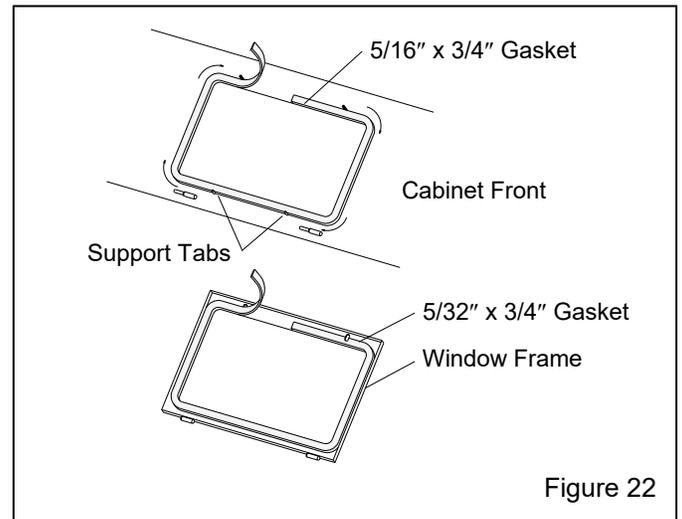

Figure 22
## 7.5 Window-Gasket Replacement – Figure 22
**7.5.4** Peel a short section of adhesive backing from the 5/16"-thick strip gasket and adhere the gasket to the center of the top edge of the window opening, as shown in Figure 22. Peel additional backing as needed and work the strip around the radius of each corner, pressing it firmly to bond. Trim the gasket to fit and compress the ends to seal.